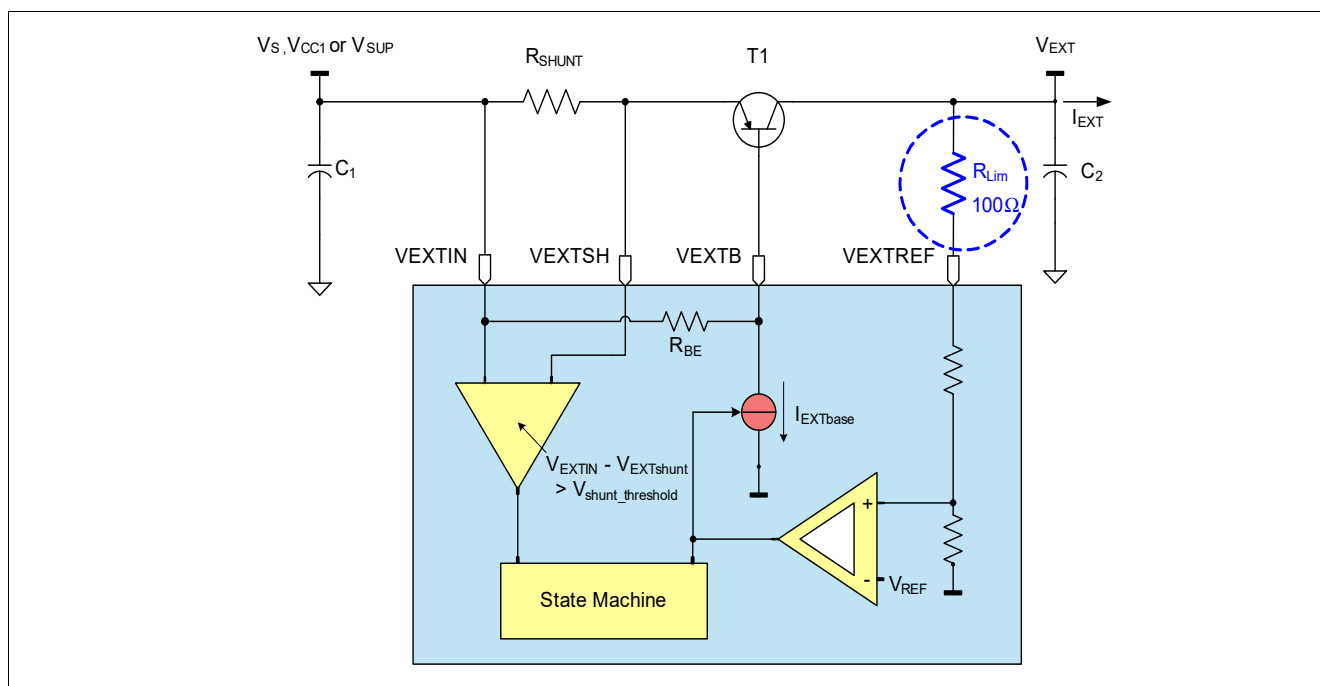

Figure 16 VEXT Hardware Setup
*Note:* If the VEXT output voltage is supplying external off-board loads, the application must consider the series resonance circuit built by cable inductance and decoupling capacitor at load. Sufficient damping must be provided (e.g. series resistor with capacitor directly at device or 100 Ω Resistor between PNP collector and VEXTREF with 10 μF cap on collector (see Figure 16).
Figure 16 shows the hardware set up used.